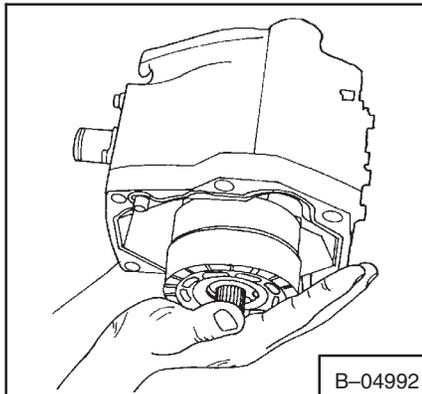

Fig. 3-103 Removing Rotating Group
11. Remove the rotating group from the housing. Use both hands to keep pistons from falling out of the cylinder block (Fig. 3-103).